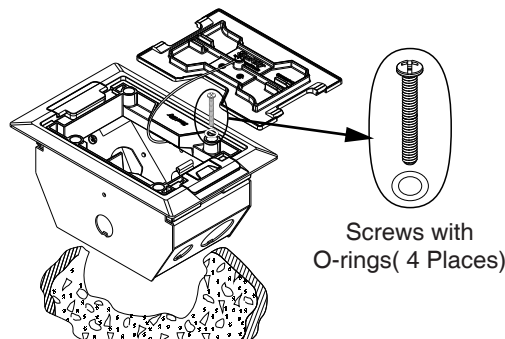

Figure 3
- 3) Lift Lid and lay to the side. Insert screws complete with O-rings through Cover into threaded holes in Metal Floor Box. Turn screws until heads and O-rings make contact with the Cover. To secure, tighten screws 1-1/2 turns. (See Figure 3).